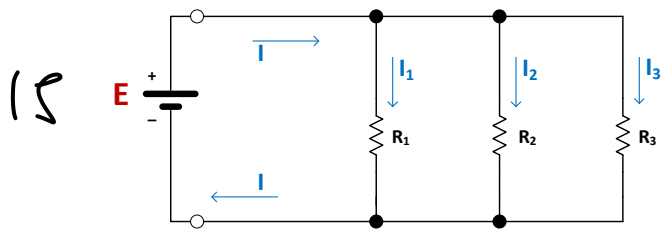
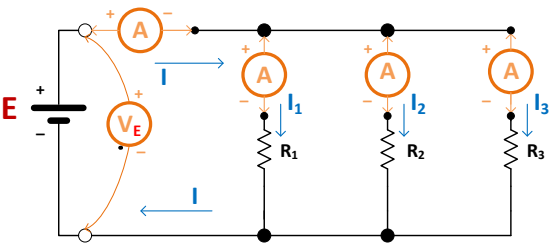

Figure 2.2a: KCL Parallel Circuit
Figure 2.2b: KCL Parallel Circuit with Ammeter & Voltmeter connections
- (i) For the circuit of **Figure 2.2a**, assume the source-voltage, $E = 15V$, $R_1 = 3.3 k\Omega$, $R_2 = 2.2 k\Omega$ and $R_3 = 1.0 k\Omega$. Determine the expected currents I , I_1 , I_2 and I_3 as shown in **Figure 2.2a**. Record your theoretical results in **Table 2.3**. Determine the sum $\Sigma I = (I_1 + I_2 + I_3)$ to verify the KCL law.
- (ii) On MultiSIM, construct and simulate the circuit of **Figure 2.2a** using a DC source-voltage, $E = 15V$, $R_1 = 3.3 k\Omega$, $R_2 = 2.2 k\Omega$ and $R_3 = 1.0 k\Omega$. The measurement setup for the simulator is depicted in **Figure 2.2b**. Record the measured currents I , I_1 , I_2 and I_3 as shown in **Figure 2.2a**. Record your simulation results in **Table 2.3**. Determine the sum $\Sigma I = (I_1 + I_2 + I_3)$ to verify the KCL law.
3. Measure the currents **I**, **I₁**, **I₂** and **I₃** as depicted in **Figure 2.2b**, and record your experimental results in **Table 2.7**. **Note:** *Make sure the DMM is set to the Ammeter function, and accordingly connected.*